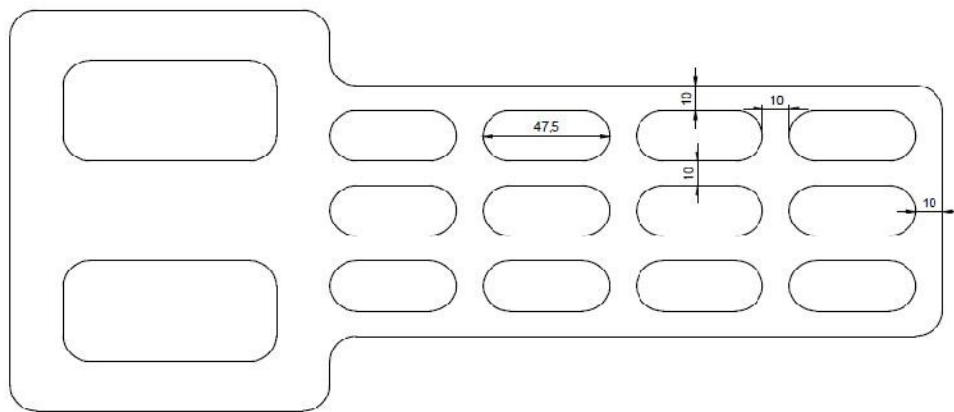

Fig 5.2
2. Design the drawing mention in Fig. 5.2 in AutoCAD using appropriate commands.